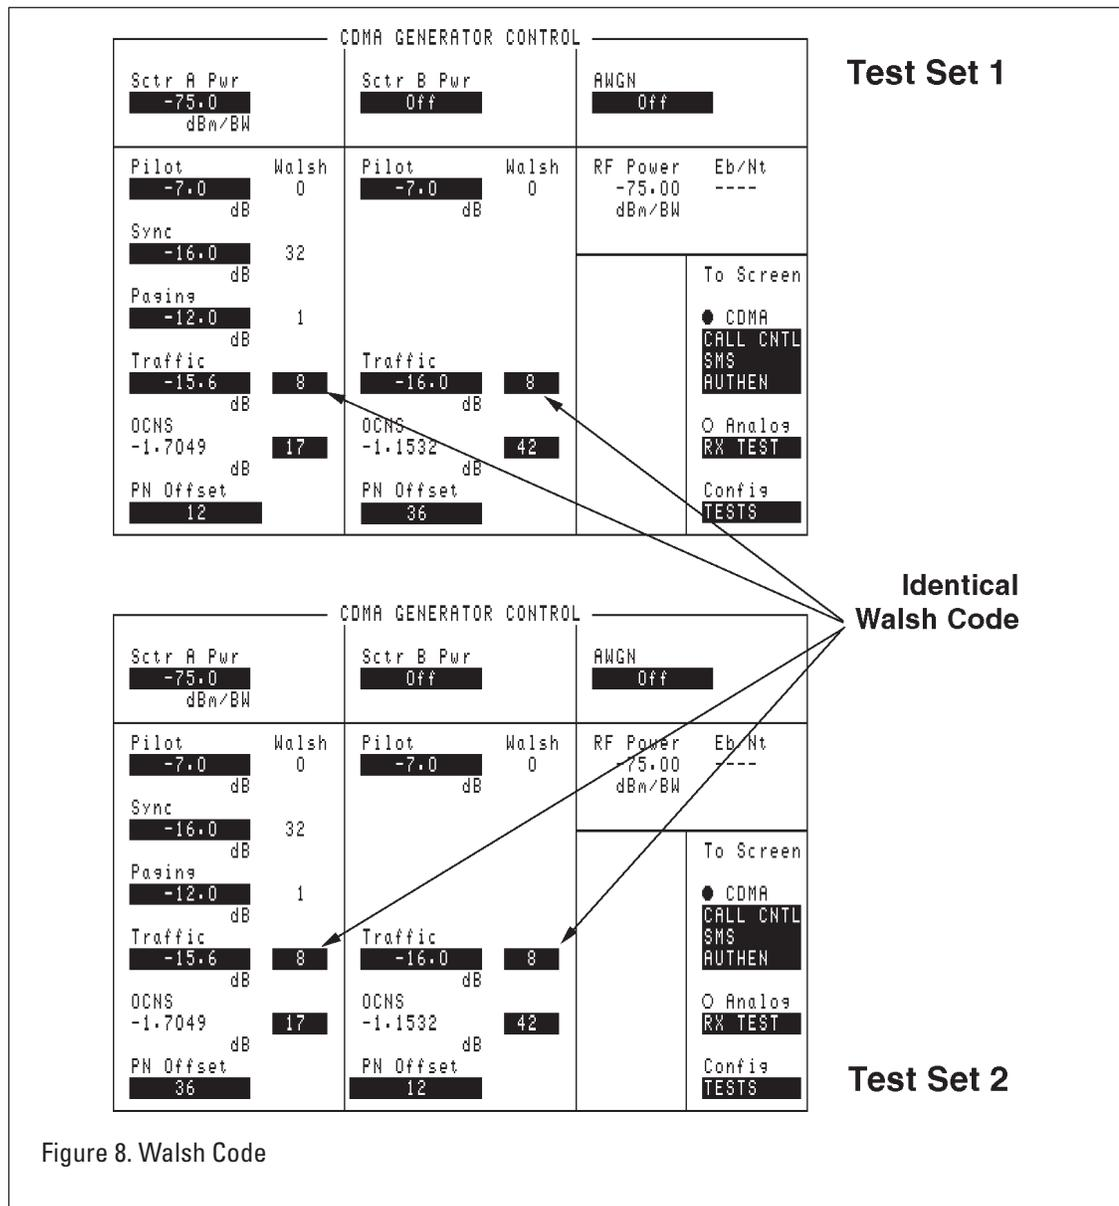

Figure 8. Walsh Code
- e. On both test sets, set Sector A and Sector B Traffic Walsh codes to the same value (this is a total of four fields). See Figure 8.